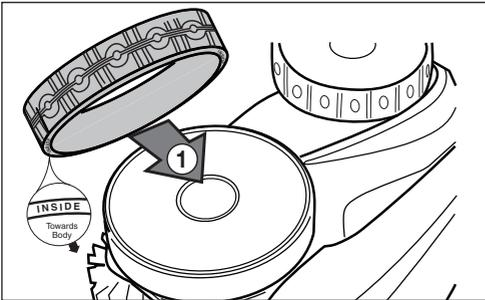

Figure 25. Tyre Replacement Orientation
3. To replace the tyre, position the tyre on the wheel making sure to orient the tyre so that the word **INSIDE** is toward the body of the cleaner. See Figure 25.